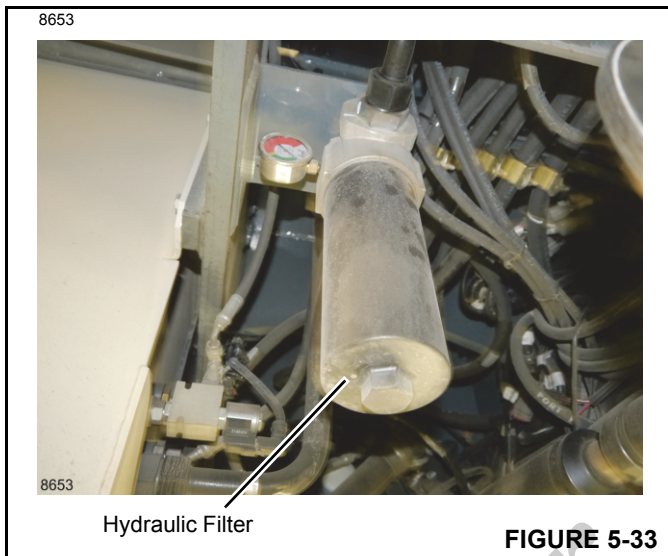

FIGURE 5-33
2. Locate the hydraulic oil filter under the crane (Figure 5-33).